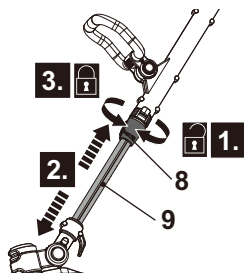

Fig. 6
1. Loosen the locking sleeve (8) in clockwise (Fig. 6, step 1).
3. Tighten the locking sleeve (8) in anticlockwise (Fig. 6, step 3).